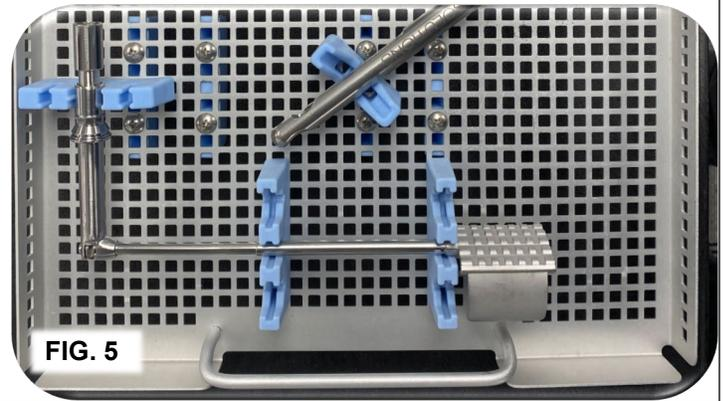

FIG. 5
1. If using a sterilization pouch, place each instrument in its own individual pouch. Place the devices in the sterilizer with the small wing facing down. If using a sterilization tray, read the sterilization tray instructions for use before proceeding. Ensure that the sterilization tray has been cleaned according to the sterilization tray instructions for use and load the tray top shelf according to FIG. 5.